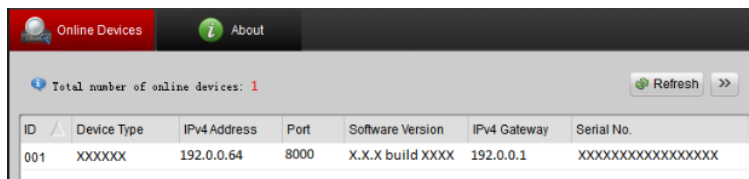

Figure 3-3 Select a Device
1. Select the device to be modified in the device list as shown in Figure 3-3. The network parameters of the device will be displayed in the Modify Network Parameters panel on the right side as shown in Figure 3-4.